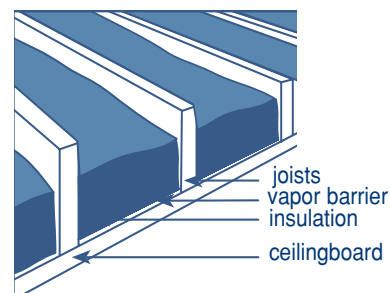

Figure 7
Step 4: Check existing insulation. Before adding additional insulation over existing material, check to see whether the old insulation has a vapor barrier and whether it is in the right place. The vapor barrier should face downward, toward the heated portion of the house. If it's been installed incorrectly, check its condition. If the insulation is dry, turn the batt or blanket so that the vapor barrier faces downward (Figure 7). If more insulation